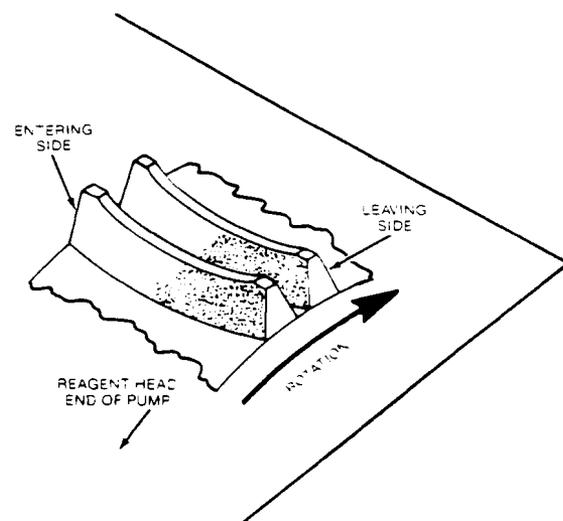

Fig. 56
- Look at the contact pattern on the driven side of the worm wheel teeth, compare it with Figure 56. Contact should appear in the center of the tooth and continue to the leaving side. If the contact pattern is not correct it can be changed by moving shims from one bearing block to the other. Remove shims on the same end of the shaft as the direction in which you want the contact pattern to move. For example, if the contact pattern is on the entering side of the wheel, remove shims from the bearing block closest to the wheel and place them on the opposite block. A different combination of shims may be used to obtain the proper adjustment however, the total thickness must be the same as determined in Step 4, or the bearing preload will be changed.